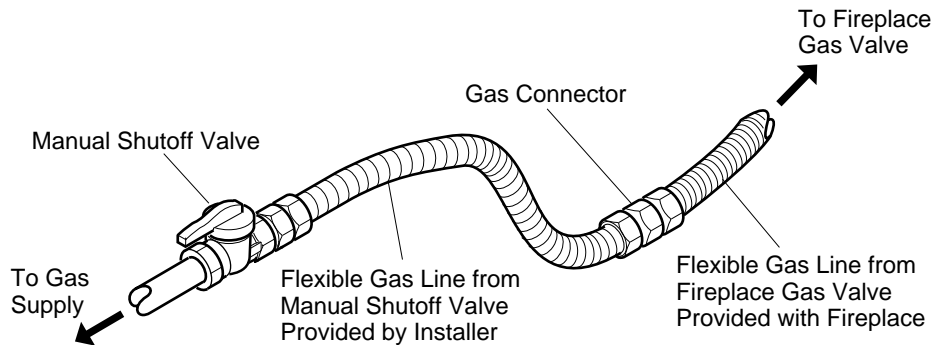

Figure 18 - Attaching Flexible Gas Lines Together
NOTICE : Most building codes do not permit concealed gas connections. A flexible gas line is provided to allow accessibility from the fireplace (see Figure 18). The flexible gas supply line connection to the manual shutoff valve should be accessible.
4. Apply pipe joint sealant lightly to male threads of gas connector attached to flexible gas line (see Figure 18). Connect flexible gas line to flexible gas line attached to gas valve of fireplace (see Figure 18).